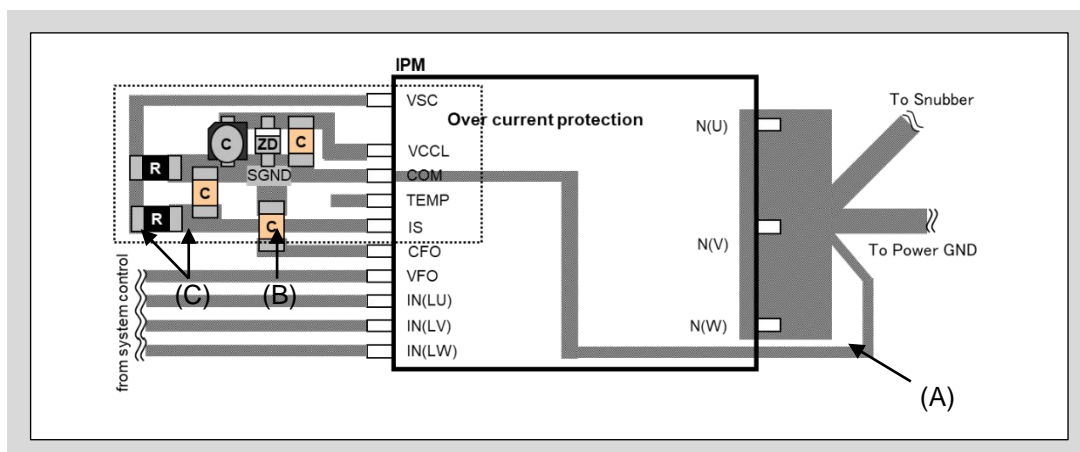

Fig. 5-10 Detecting sense current with sense resistor method
**In Fig. 5-10**
- (A) To avoid voltage fluctuations caused by the current flowing in the power line, separate the control GND and power GND, and connect them at one point to the snubber capacitor GND.
- (B) To prevent fluctuations of the OC protection level and malfunction, the IS signal pattern should be as short as possible.
- (C) To prevent erroneous detection during switching operation, connect a RC filter to the IS terminal. The negative pole of the RC filter capacitor should be connected to the signal GND near the COM terminal.